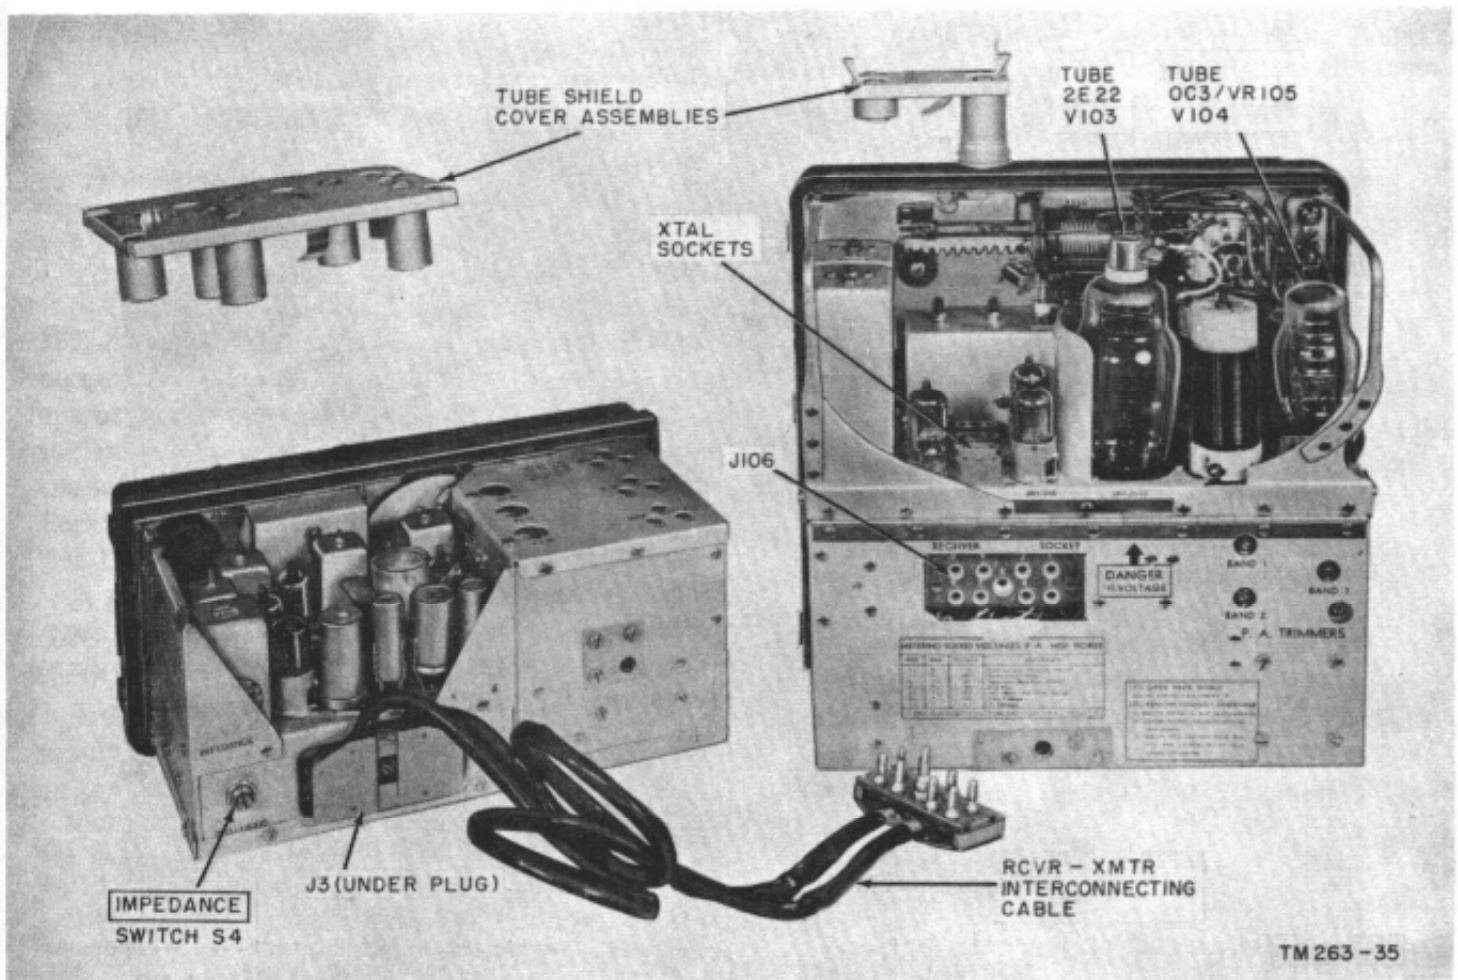

Figure 30. Rear view of radio set out of its case.
- (b) Lift the cover straight up without tilting it. This is necessary to avoid any damage that may occur if the tube shields (fig. 30) are forced sideways, pushing any tube which is in
(fig. 30), and then place the receiver on the operating or testing bench. The tubes and crystal are located beneath a single metal tube shield cover plate, which is removed without the aid of tools.
- (1) Release the latches that hold the transmitter section to the case and pull the transmitter partially out. The same warning must be observed as described in a(1) above when unhooking the latches from this position. Pull out the cable plug from the RECEIVER POWER SOCKET.
- (2) Install tube 2E22 in its socket (fig. 30) as described in a(6) above.
- (3) The voltage regulator tube VR105, V104 (fig. 30) can be removed after removing the safety clamp around the base of the tube. Refer to paragraph 65b(3) for further instructions pertaining to this clamp.
- (4) Tubes V101, V102, and V105 (fig. 120) and crystals 1A, 1B, 2A, 2B, 3A, and 3B are located under a small tube shield cover plate (fig. 30). The cover plate can be removed by releasing the spring catches at both ends of the plate and lifting straight upward. The tubes and crystals are then easily accessible. The tubes can be removed as shown in figure 31.
- (5) If the transmitter is shipped without crystals, remove the tube cover plate as described in (4) above. Plug the crystals in their proper sockets as shown on the cover plate. The choice of a crystal depends on the operating frequency, refer to paragraph 22f for the crystal frequencies available. Because a frequency doubler circuit is used in the transmitter, the transmission frequency will be twice the natural frequency of the crystal. Therefore, if it is desired to trans-
The separate receiver and transmitter sections are connected by the receiver-transmitter interconnecting cable (fig. 30), which is secured (in some units) to the metal case behind these sections. Refer to paragraph 32b(6) for instructions to connect this cable. No other cords or cables are used between these sections. See B, figure 54 for the wiring diagram of the cable and its connectors.